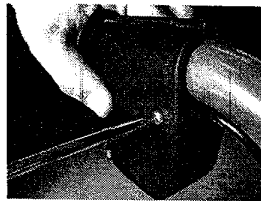

Figure 10
Step 4: Take out the speed controller that has been pre-connected to the front wheel from the battery container. You may find that the brake has been installed on one side of the handles. Fasten the speed controller to the other handle (Figure 10).